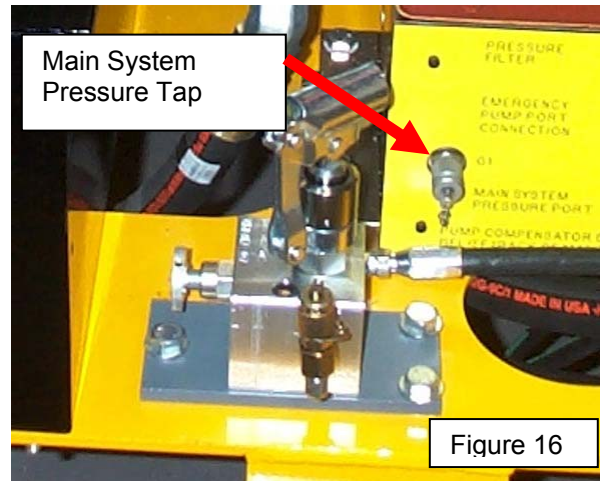
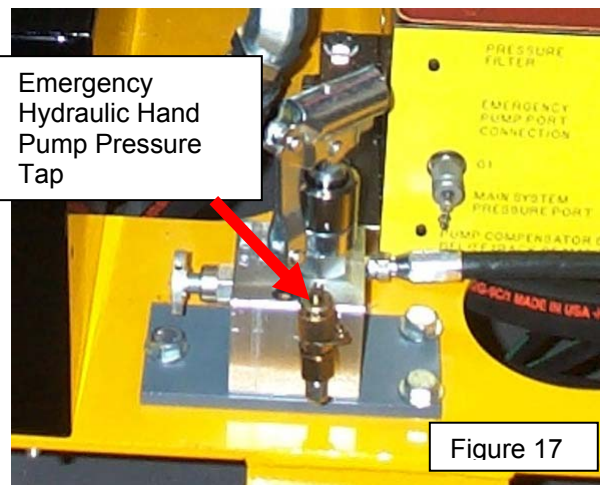
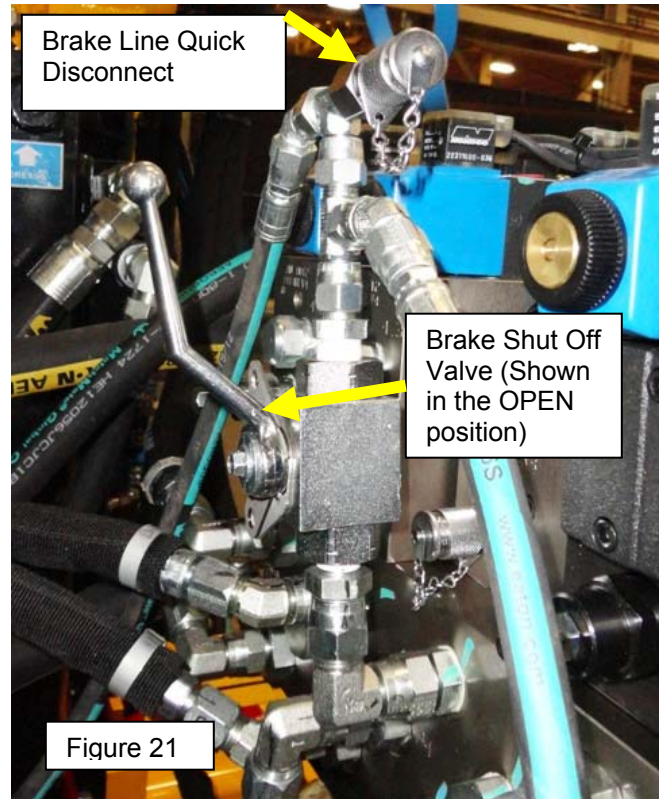

Figure 16
Figure 17
Figure 21
2. Attach one end of the hose (found in the toolbox) to the main system pressure port on the Propulsion Manifold (Figure 16). Attach the other end of the hose to the emergency hydraulic hand pump pressure tap (Figure 17).
3. Turn the brake lock -off valve at the brake valve stack on the machine's left side (Figure 21) to the CLOSED position. (CLOSED is perpendicular to the hose line, OPEN is parallel to the hose line.)
4. Attach one end of the hose (found in the toolbox) to the emergency hydraulic hand pump pressure tap (Figure 17) and attach the other end of the hose to the brake line quick disconnect located at the brake valve (Figure 21).
7. Have someone install two brake lock pins (1) and hairpin cotters (2) as shown in figure 21 on the two brake cylinder assemblies (Figure 23).
15. Turn the brake lock-off valve to the OPEN position (Figure 21) and verify that the brake shoes are locked OFF with brake pins installed on all 4 wheels if towing the machine. (If any brake shoes stay in contact with a wheel repeat steps 10-15. If not proceed to step 16).
18. Turn the main pump ball valve to the OPEN position (Figure 16) (Indicator line on ball valve) will be in line to the flow in the pressure line.